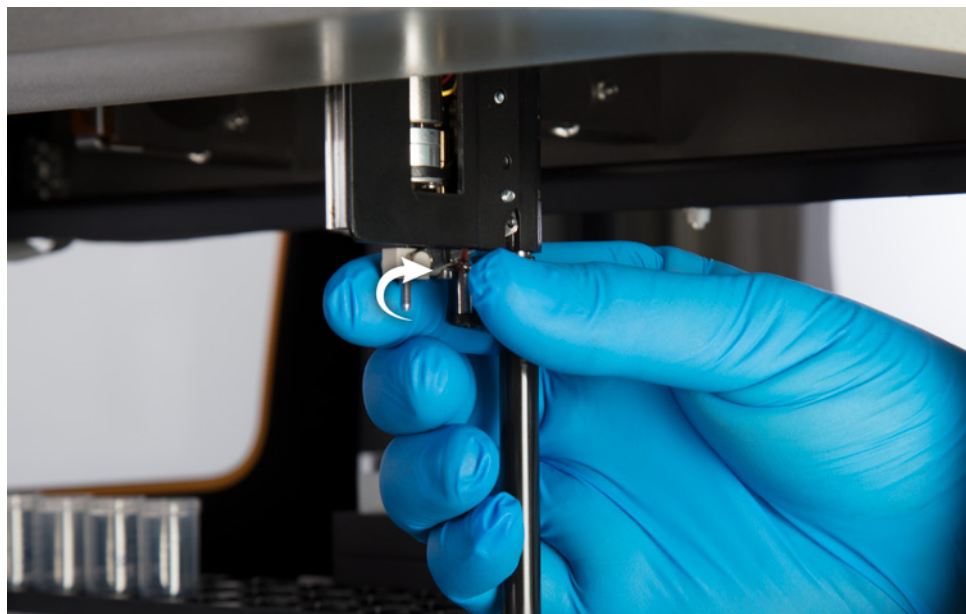

Figure 39. Squeeze Drive. Turn the squeeze drive in the direction indicated to release any tools or pipette tips from the pipetting channels.
- d. Pull the pipetting channel downward to access the squeeze drive on the pipetting channel (Figure 39).
- e. Turn the squeeze drive in the direction indicated in Figure 39 to release the squeeze motor. A spring on the pipetting channel will forcibly shuck the tip or tool once the squeeze drive has been loosened.